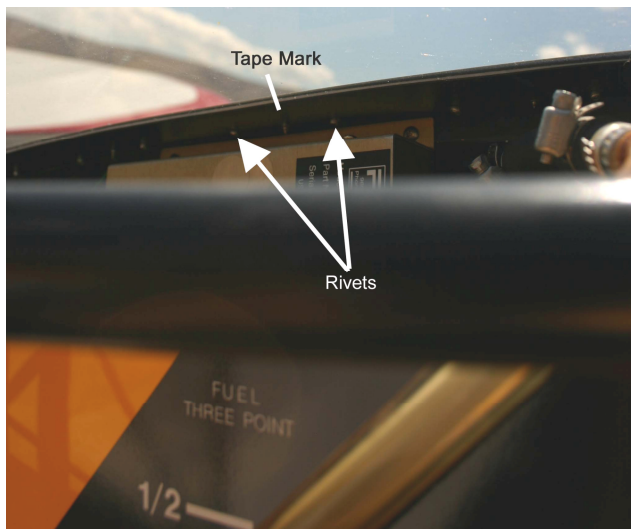

Figure 1 – Rivet Locations
1. From inside the cockpit, locate rivets (tail end) on the flange of wing rib. Put tape on inside of skylight to mark **halfway** between rivets. See Figure 1.